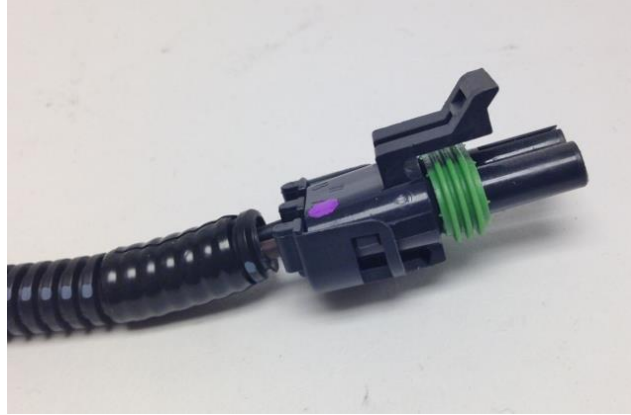

Figure 1 - Washer Pump Connection
2. The DSE Selecta-Speed harness does include a weather pack connector to install the DSE Washer pump (Figure 1).